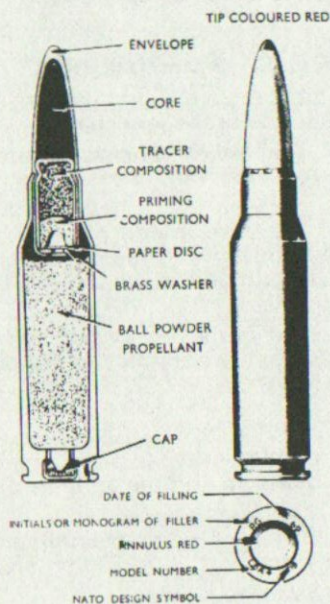

Fig 81 – 7.62-mm Tracer
- a. *The bullet* consists of a metal envelope containing a lead core and a copper tube containing tracer and priming compositions. The tip of the bullet is coloured red for identification. (See Fig 81).